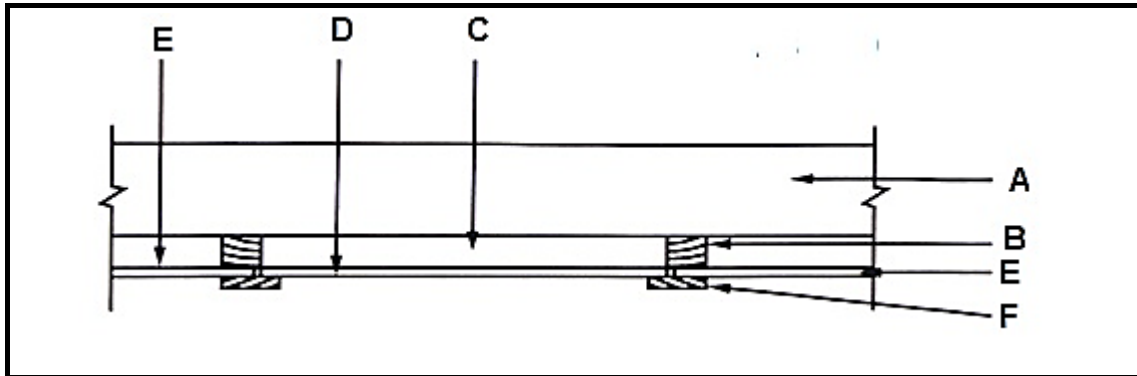

FIGURE 4.8
4.8 FIGURE 4.8 below shows a sectional view through the construction of a trap door.